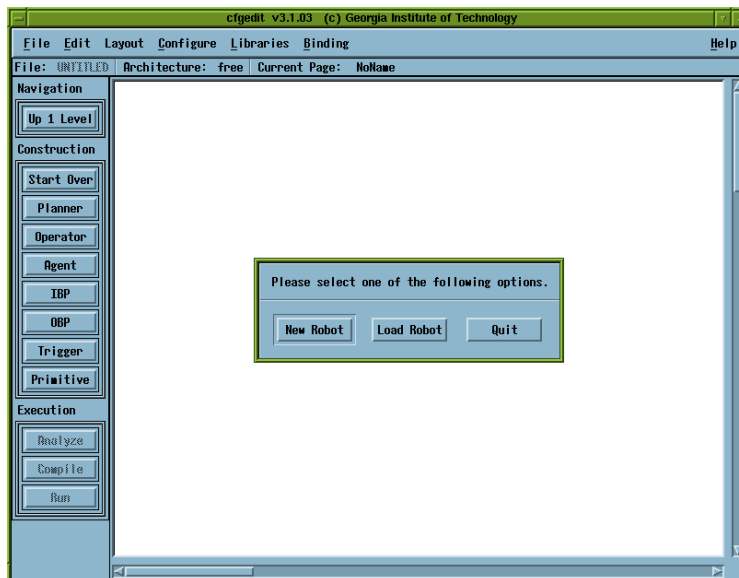

Figure 3: *CfgEdit* Window
- If you launch *CfgEdit* with the following command, its window (Figure 3) will pop up on the screen.